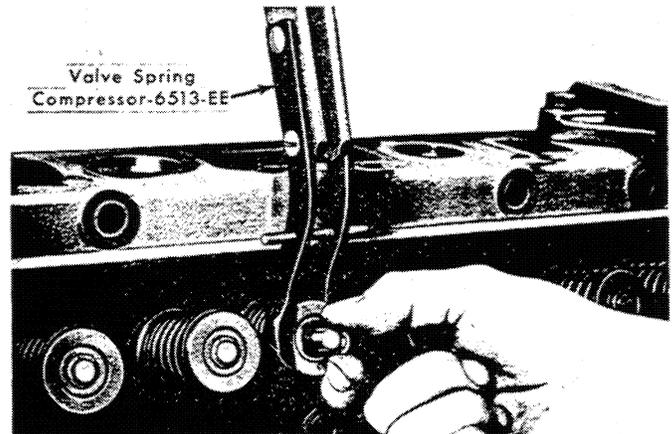

Figure 5
2. Prior to removing the valves, clean all carbon deposits from the combustion chambers. Position Valve Spring Compressor 6513-EE over the valve and spring, as shown in Figure 5, and compress the spring. Remove the valve spring retainer locks, sleeve, retainer, and spring from each valve. Lift the valves from the head and place them in a numbered rack so they can be reinstalled in their respective guides.